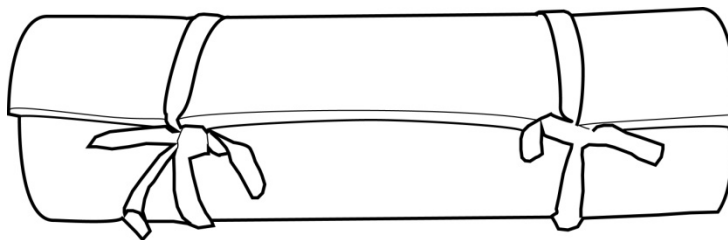

Figure 3. Foam Sleeping Mat.
**Foam Sleeping Mat (Replaced by Modular Sleep System).** The Foam Sleeping Mat (Figure 3) is made of closed-cell, cross-linked polyethylene foam. The mat is equipped with tie tapes at one end to hold it in the rolled condition for carrying. The mat weighs about 1 1/4 pounds and is 24 inches wide by 75 inches long. The mat will not absorb water and remains flexible in extreme cold temperatures. Downsizing is authorized at the commander's discretion subject to Central Issue Facility (CIF) manager/Property Book Officer (PBO) approval. Authorized modifications should be performed using available cutting instruments such as scissors, pocket knife, or razor knife. Since the foam is of a closed-cell composition, the cut edge need not be sealed. The minimum width authorized is 20 inches. Length will be determined by Soldier's height. Tie straps are not to be removed. Soldiers are not authorized to cut sleeping mat to his/her size without written approval from CIF manager/PBO.